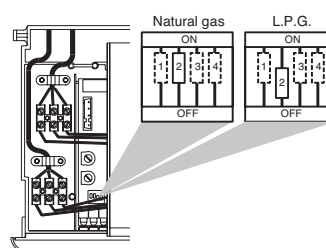

Figure 16.3
- Set correctly the dip-switch “2” to the correct position (Fig. 16.3) in accordance with the following table.